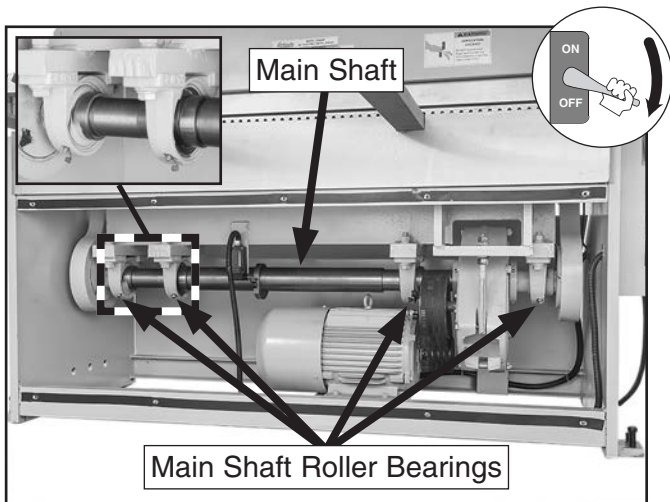

Figure 48. Main shaft roller bearing lubrication.
3. Remove dust cap and clean grease fitting, then pump in new grease until it just seeps from fitting (see **Figure 48**). Repeat for all (4) bearings.